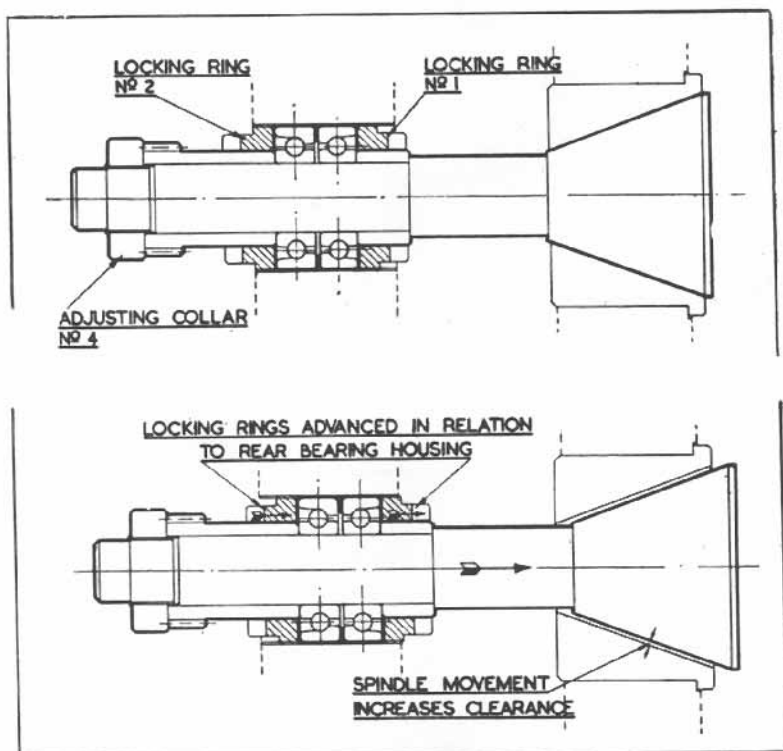

Fig. 36. Showing spindle movement exaggerated.
Rotate locking ring (1) using the "C" spanner provided, the top of the locking ring being turned towards the operator. Rotate locking ring (2) in the same direction until the ball bearings contact the locking ring (1) and the outer races are again locked together. This procedure moves the ball bearings and spindle bodily forward to a position free of the front bush as shown in Fig. 36.